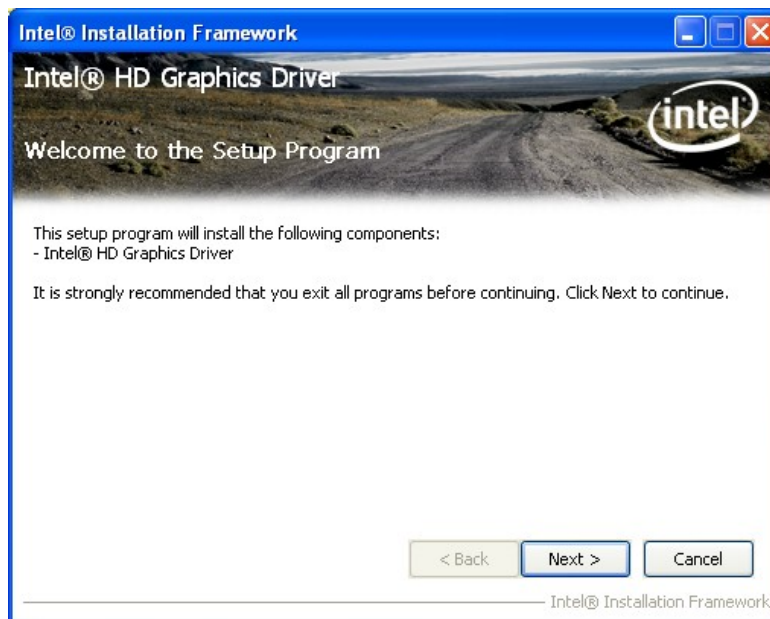

Figure 6-7: Graphics Driver Welcome Screen
Step 4: The **Welcome Screen** in **Figure 6-7** appears.